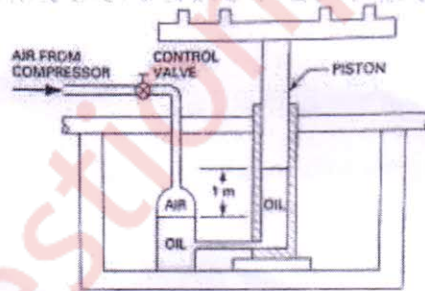

FIGURE 1
2. (a) For the fluid power automobile lift system shown in Figure 1, the air pressure equals 550 KPa 8